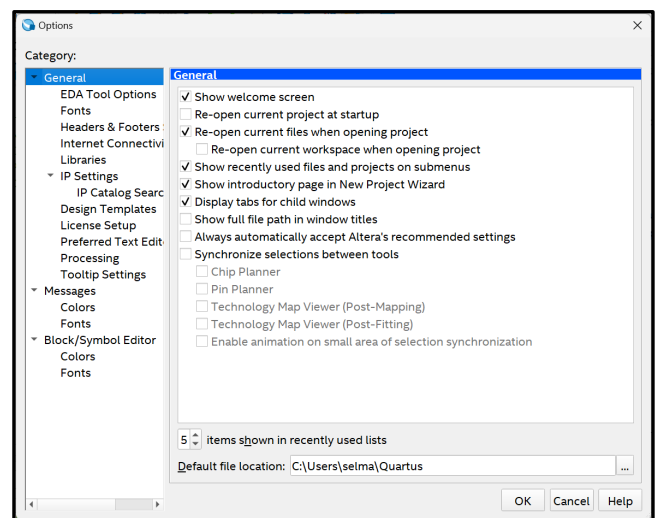

Figure 18: Changing the default folder (directory).
4. As shown in Figure 18, above the “OK” button near the bottom of the window, you will see an option for “Default File location:”. Click on the ellipsis, then find the directory that you would like to use as your default when creating a new project using the Project Wizard and click “Select Folder”.